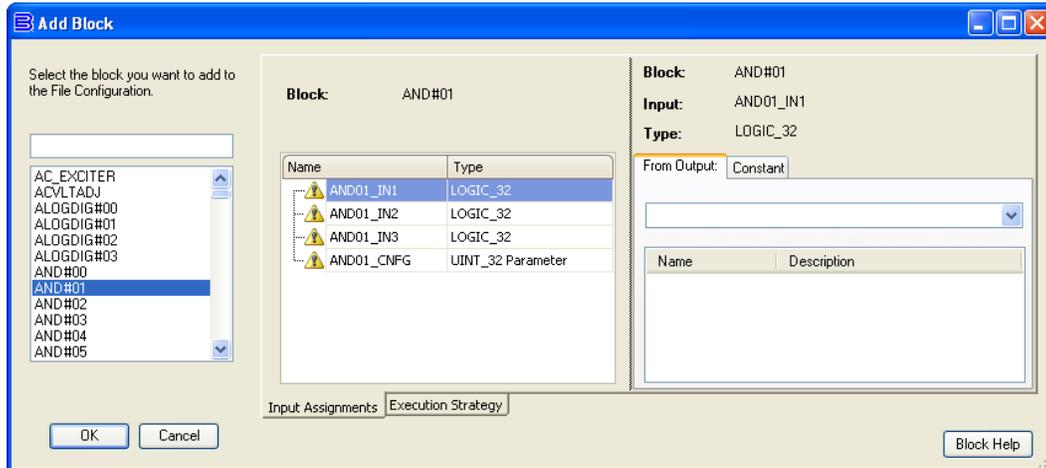

Figure 6-18. Add Block Window
- b) Click the *Add Block*  button. The add block window appears. Select one of the available “AND” blocks. The input, output, and execution strategies areas are enabled. See Figure 6-18.